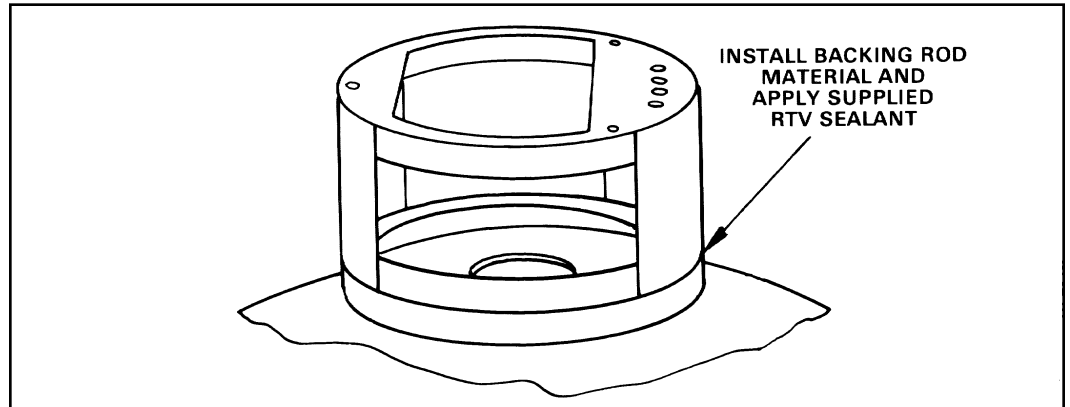

Figure 3-40: Backing Rod Assembly
- Step 3* Install the supplied sealant backing rod material around entire circumference of the mounting ring/enclosure mating surfaces as shown in Figure 3-40.